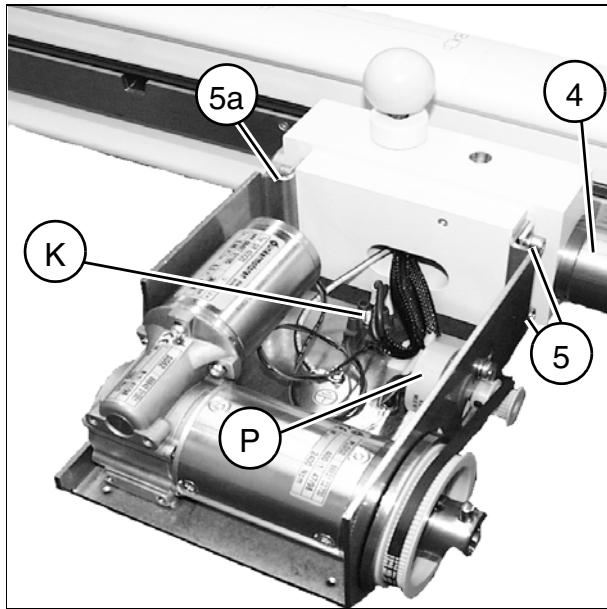

Fig. 26
- Open the cover of the angulation drive (Fig. 26).
- Desolder the cables at the potentiometer (P/Fig. 26); when doing this, record the color coding of the cables to the potentiometer connections to ensure correct reconnection.
- Remove the old potentiometer completely (P/Fig. 26).
- Disconnect the motor cable coming from the unit at the clamp (K/Fig. 26).
- Install the new angulation drive. Do not tighten the mounting screws yet (5/5a/Fig. 26).
- The screws can still be loosened (5/5a/Fig. 26). Follow the correct sequence when tightening (5 up, 5 down, 5a up, 5a down/ Fig. 26).